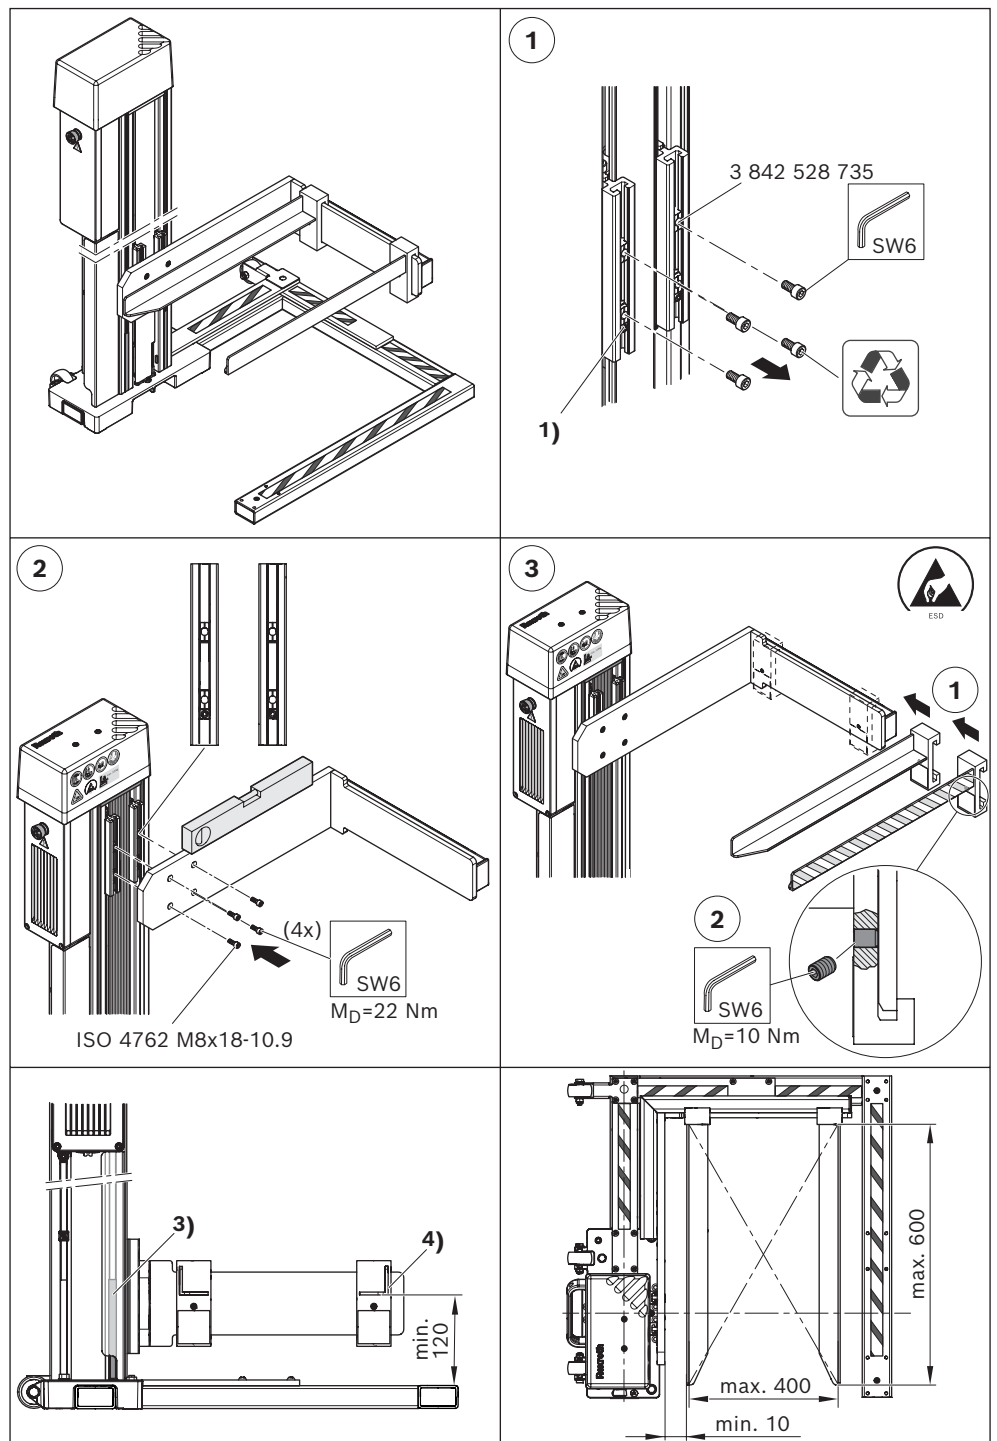

Fig. 20: Installation of attachment brackets and forks for side loading by dolly
- Side loading of cases (see Fig. 20)